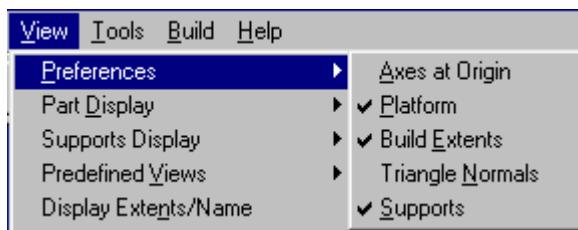

Figure 138. View Pull-down Menu (Preferences)
1. Click on "View" from the main menu, to open the "View" Pull-down menu (Figure 138).